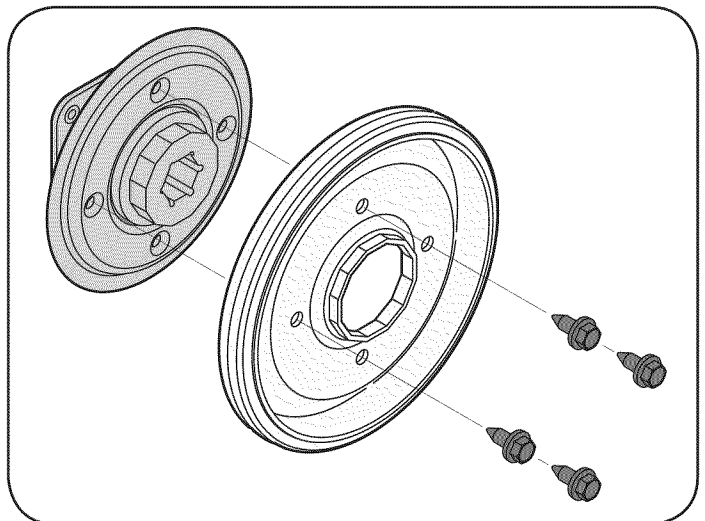

Figure 33
- Remove four screws securing the friction wheel to the hub assembly (refer to Figure 33). Discard old friction wheel.